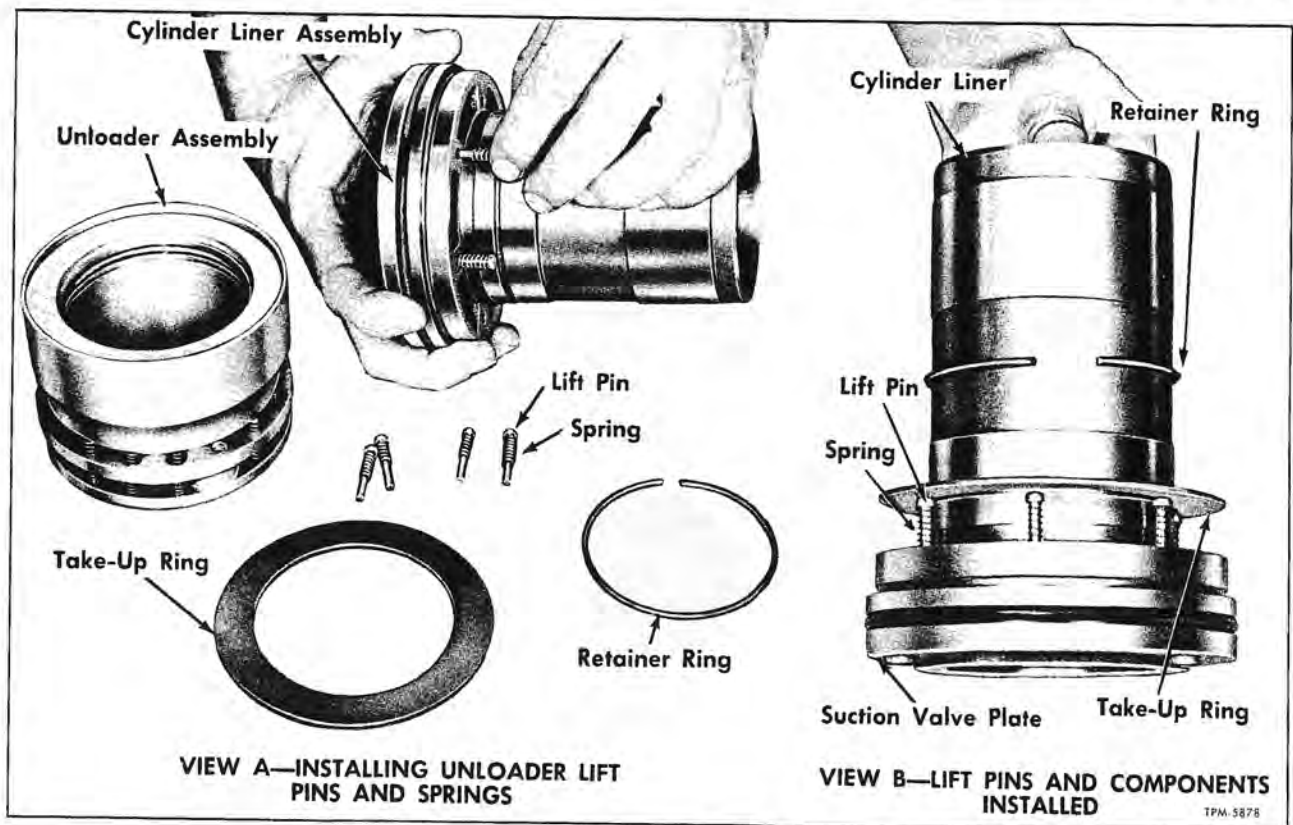

Figure 85—Building Up Unloader Components
4. On liners having unloaders, position springs (4) on lift pins (5), then insert pins into flange of liner (View A, fig. 85). NOTE: Push pins in and out to see that movement is free. Lower the take-up ring (49) down over heads of pins, then install retainer ring (32) over take-up ring (View B, fig. 85) to position in ring groove. Check action of take-up mechanism by pressing up and down on take-up ring.